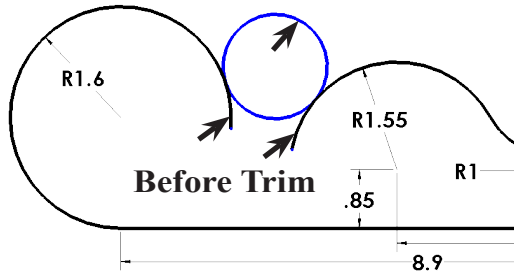
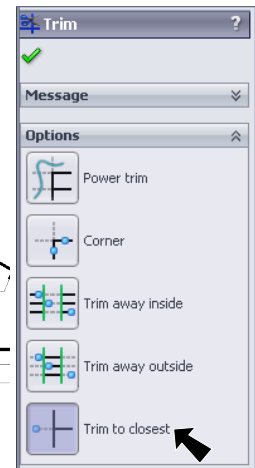
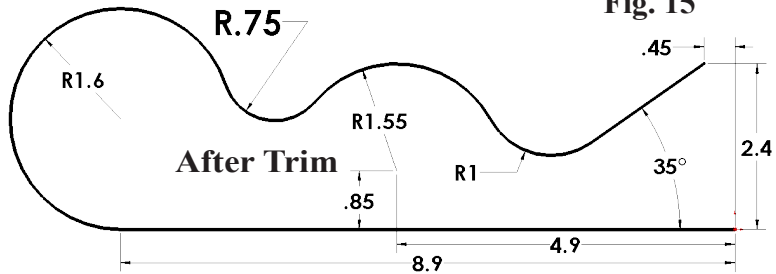

Fig. 16
Fig. 15
Fig. 17
Step 2. In the Property Manger select **Trim to closest**  **Fig. 15**. Click entities to trim; **top of circle and bottom ends of arcs**, **Fig. 16**. Results shown in **Fig. 17**.
Step 3. Click **Smart Dimension**  (S) on the Sketch toolbar.
Step 4. Dimension arc radius **.75**, **Fig. 17**.